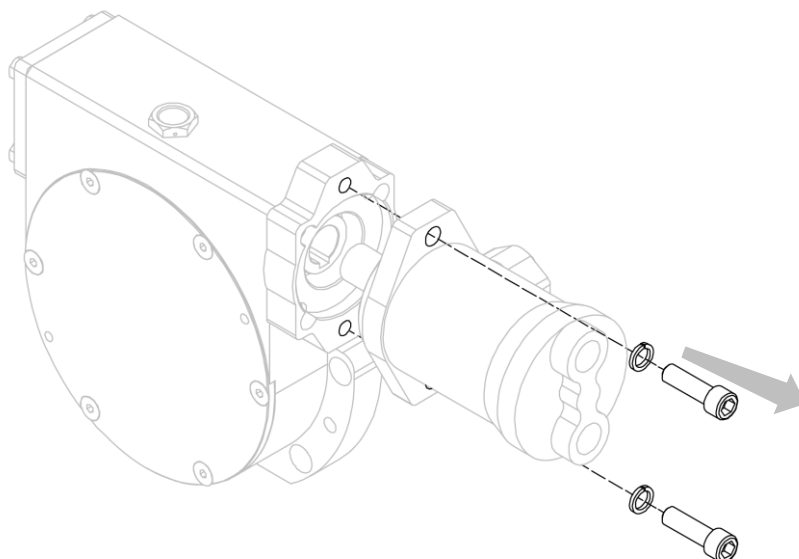

Figure 35
4. Separate the motor from the gearbox, after having removed the bolts that secure it (see *Figure 35*).